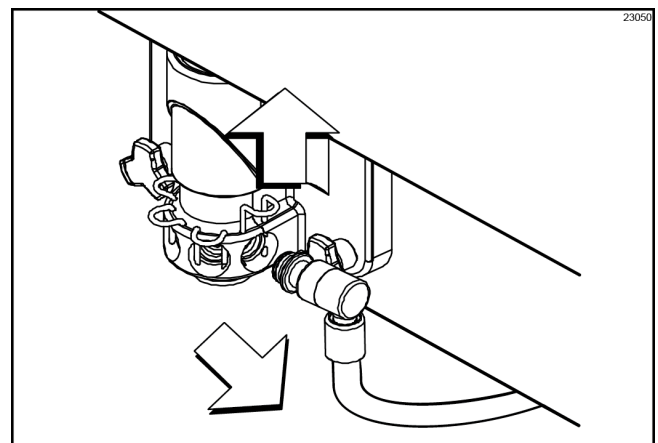

Figure-54
9. Remove the syrup lines from the freezer door. (See Figure-54.)